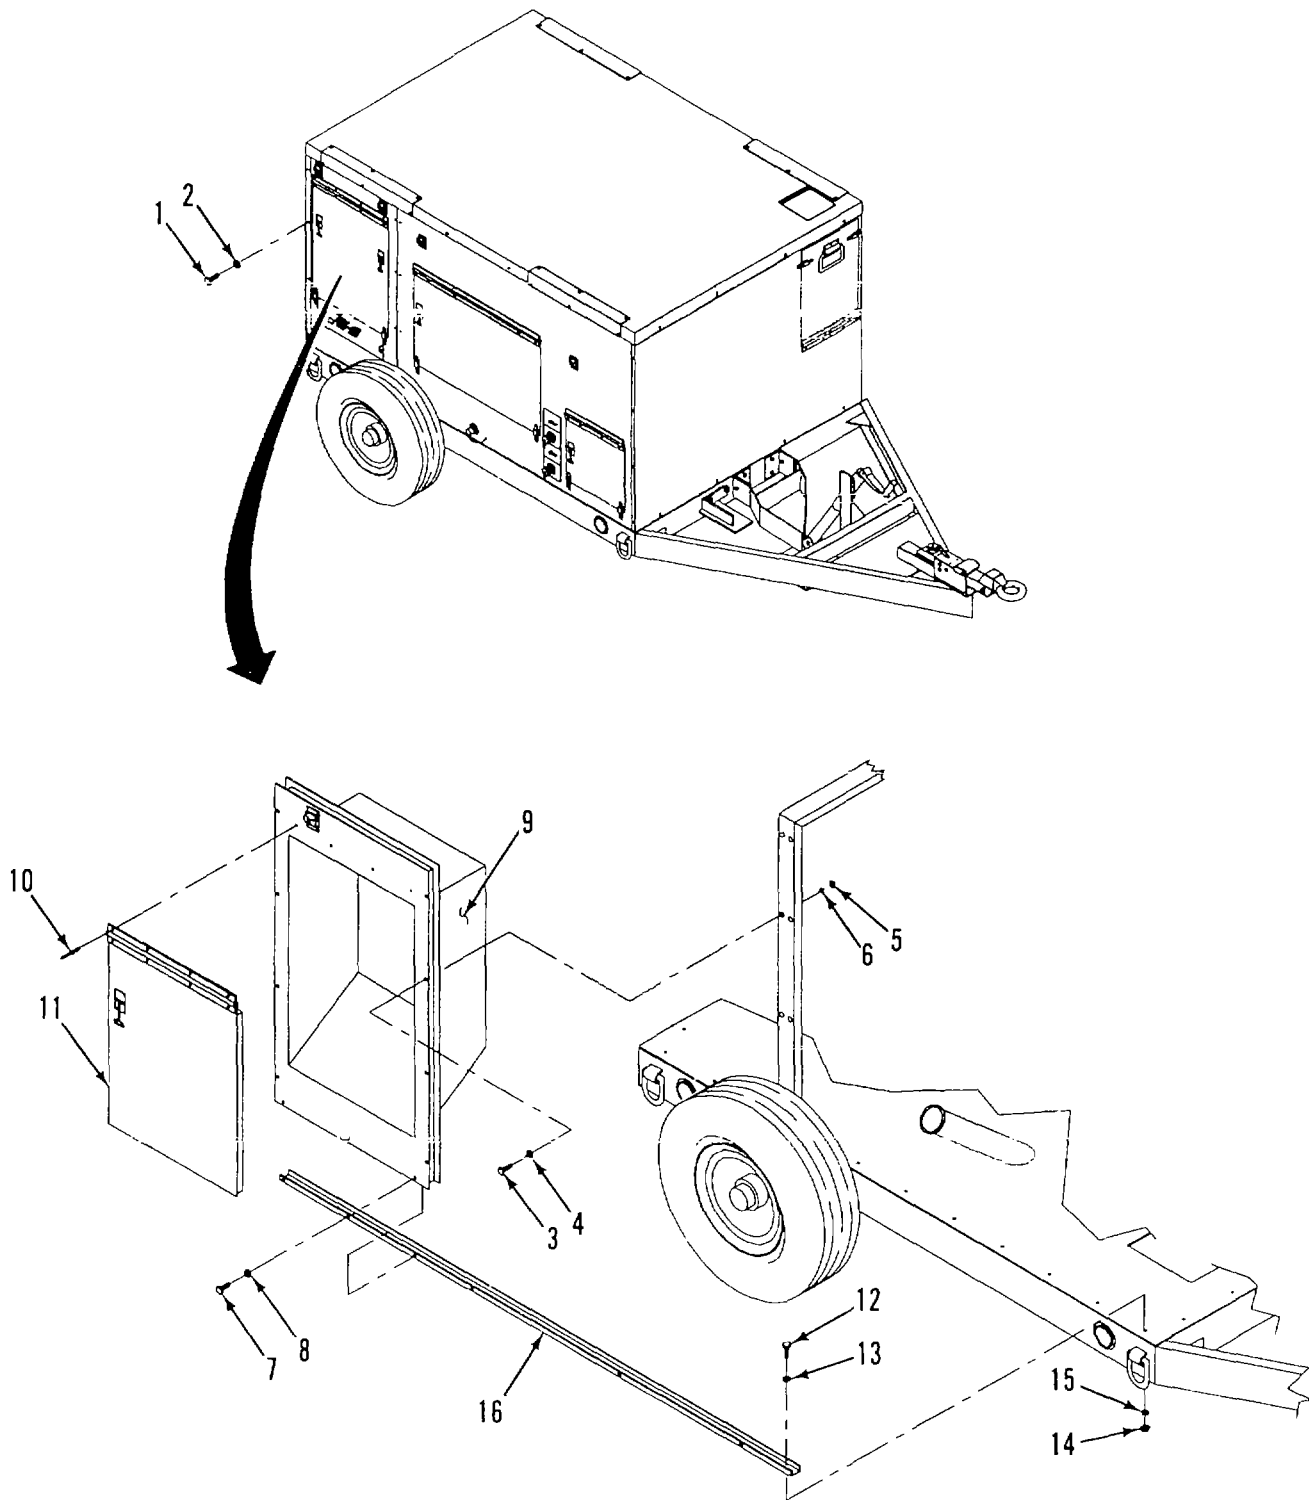

Figure 3-9. Noise Enclosure Control Panel
a. REMOVE. (Figure 3-9)
- (1) Remove bolts (1) and flat washers (2).
- (2) Remove bolts (3), flat washers (4), nuts (5), and flat washers (6).
- (3) Remove bolts (7), flat washers (8), and panel (9).
- (4) Remove rivets (10) (para. 3-6) and hinged panel (11).
- (5) Remove bolts (12), flat washers (13), nuts (14), lockwashers (15), and mounting bracket (16).